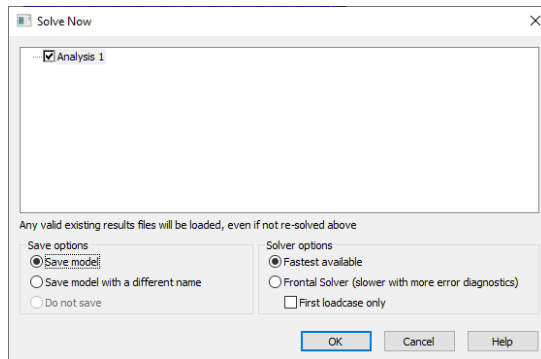

Figure 65: Solve Now dialog
- Then check the tickbox **Analysis 1** and click on **OK**, (Figure 65)